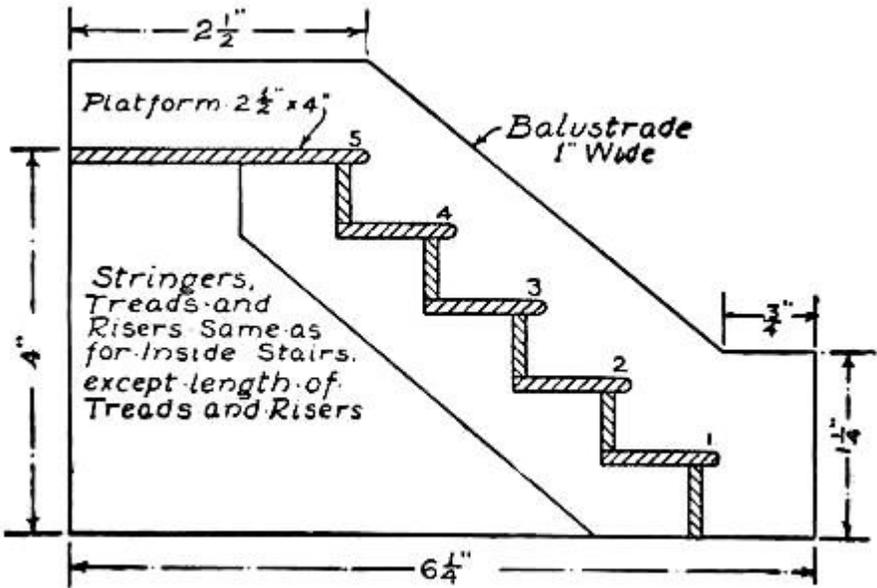

FIG. 76.—The Front Steps.
**The Front Steps** are made as shown in Fig. 76. Cut out two balustrades the shape and size shown in the drawing. Then prepare two stringers of five steps, cutting them exactly the same as for the other stairs, and glue them to the inner faces of the balustrades. The treads and risers are the same as for the other stairs, except that they are four inches in length. Cut the top platform two and one-half inches wide.